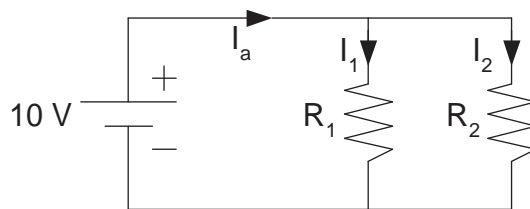

Figure 4.4: Two resistors connected in a parallel circuit.
1. Prepare the circuit shown in Fig. 4.4. *DO NOT turn on the power supply until the circuit has been checked by the lab instructor.* Ask the lab instructor to explain the
1. For the parallel circuit, Fig. 4.4, does Eq. (4.3) hold within the accuracy of the meters? Explain.